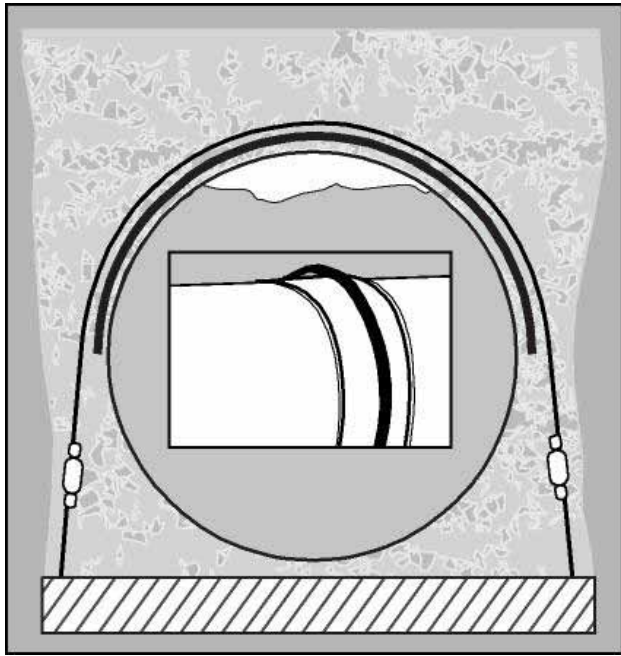

Figure 2. A reinforced bottom hold-down pad provides a firm bed for the tank and adds resistance to flotation.
- **Use a hold-down pad.** This is a cement pad placed underneath the tank. (See Figure 2.)